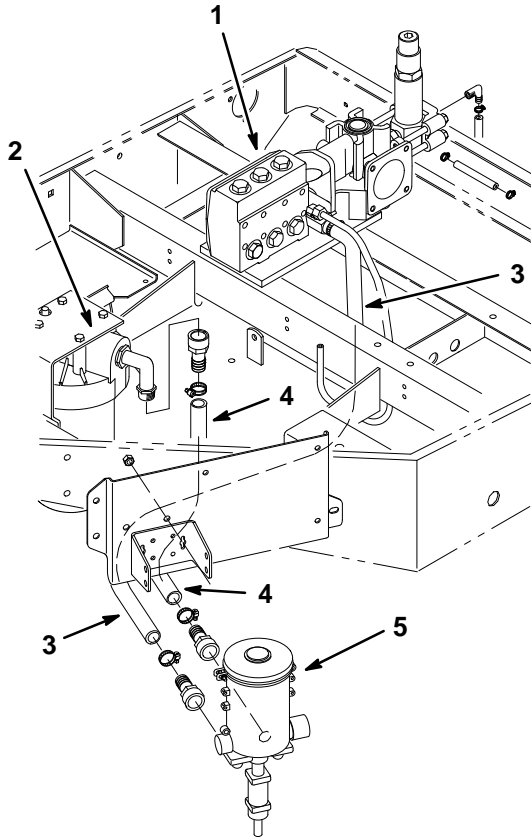

Figure 9
17. Install new blue 3/4" (19 mm) hose from the filter to the inlet side of the liquid injector. Cut the hose to length as required (Fig. 9).
18. Install new blue 3/4" (19 mm) hose from the liquid injector outlet to the inlet side of the water pump. Cut the hose to length as required (Fig. 9).